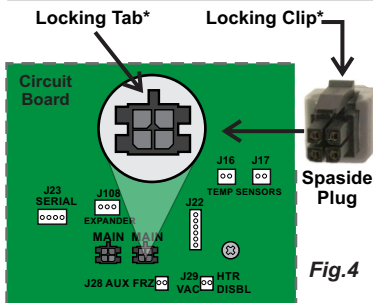

Fig.4
Step 4 - Connect spaside to an empty connection marked MAIN. (Fig.4)